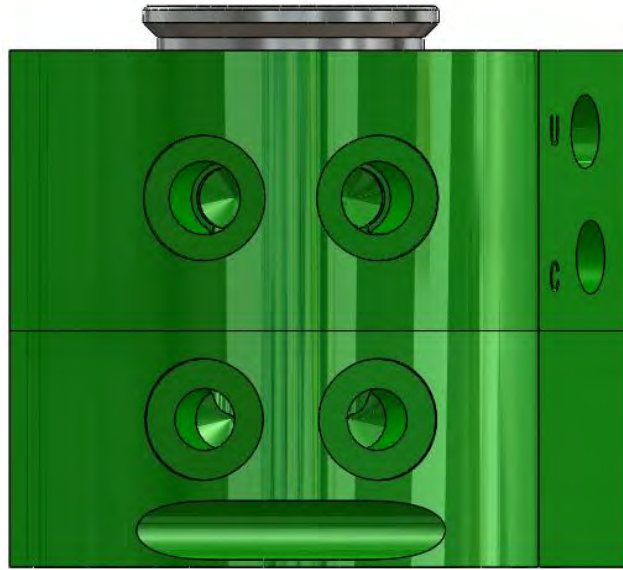

Figure 6.2-2. E31.5 Tool Changer – Docked Position
5. Stop the motion when the distance between the Robot Adaptor interface surface and Tool Adaptor interface surface are touching or as close as can reasonably be achieved. At this time, any electrical or fluid connections will be made through the use of available side modules. Note that when the interface surfaces of the Robot Adaptor and Tool Adaptor are in contact, the outer edge of the Adaptors should be touching (Figure 6.2-2).